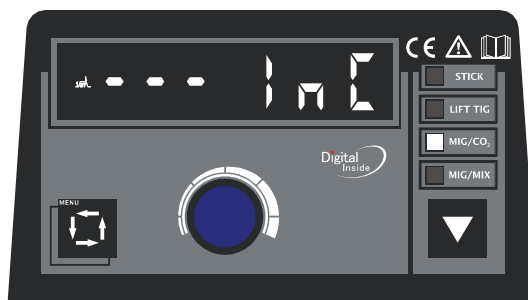

Fig. 7: Wire inching display under MIG mode
- e) Press the switch of MIG gun. It starts wire inching. And the **【Main display】** shows as Fig. 7. When connected with MIG gun, press the torch switch for 5s without welding, the internal wire spool in the machine starts to rotate and wire feeding at a high speed 11m/min for 20s. Then it stops automatically. When release the button in 20s, wire feeding stops automatically.